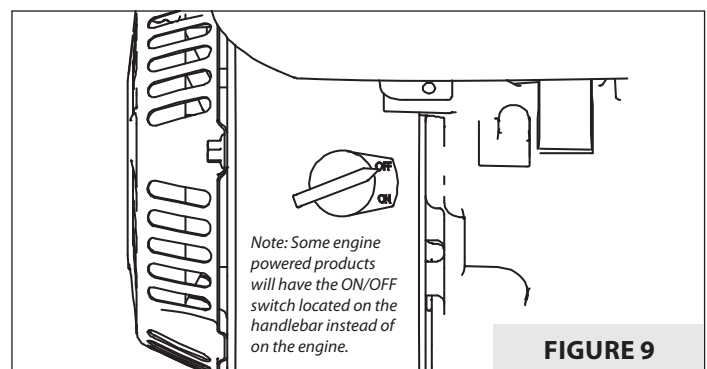

FIGURE 9
2. Turn the ON/OFF switch to the **OFF** position. **SEE FIGURE 9.**